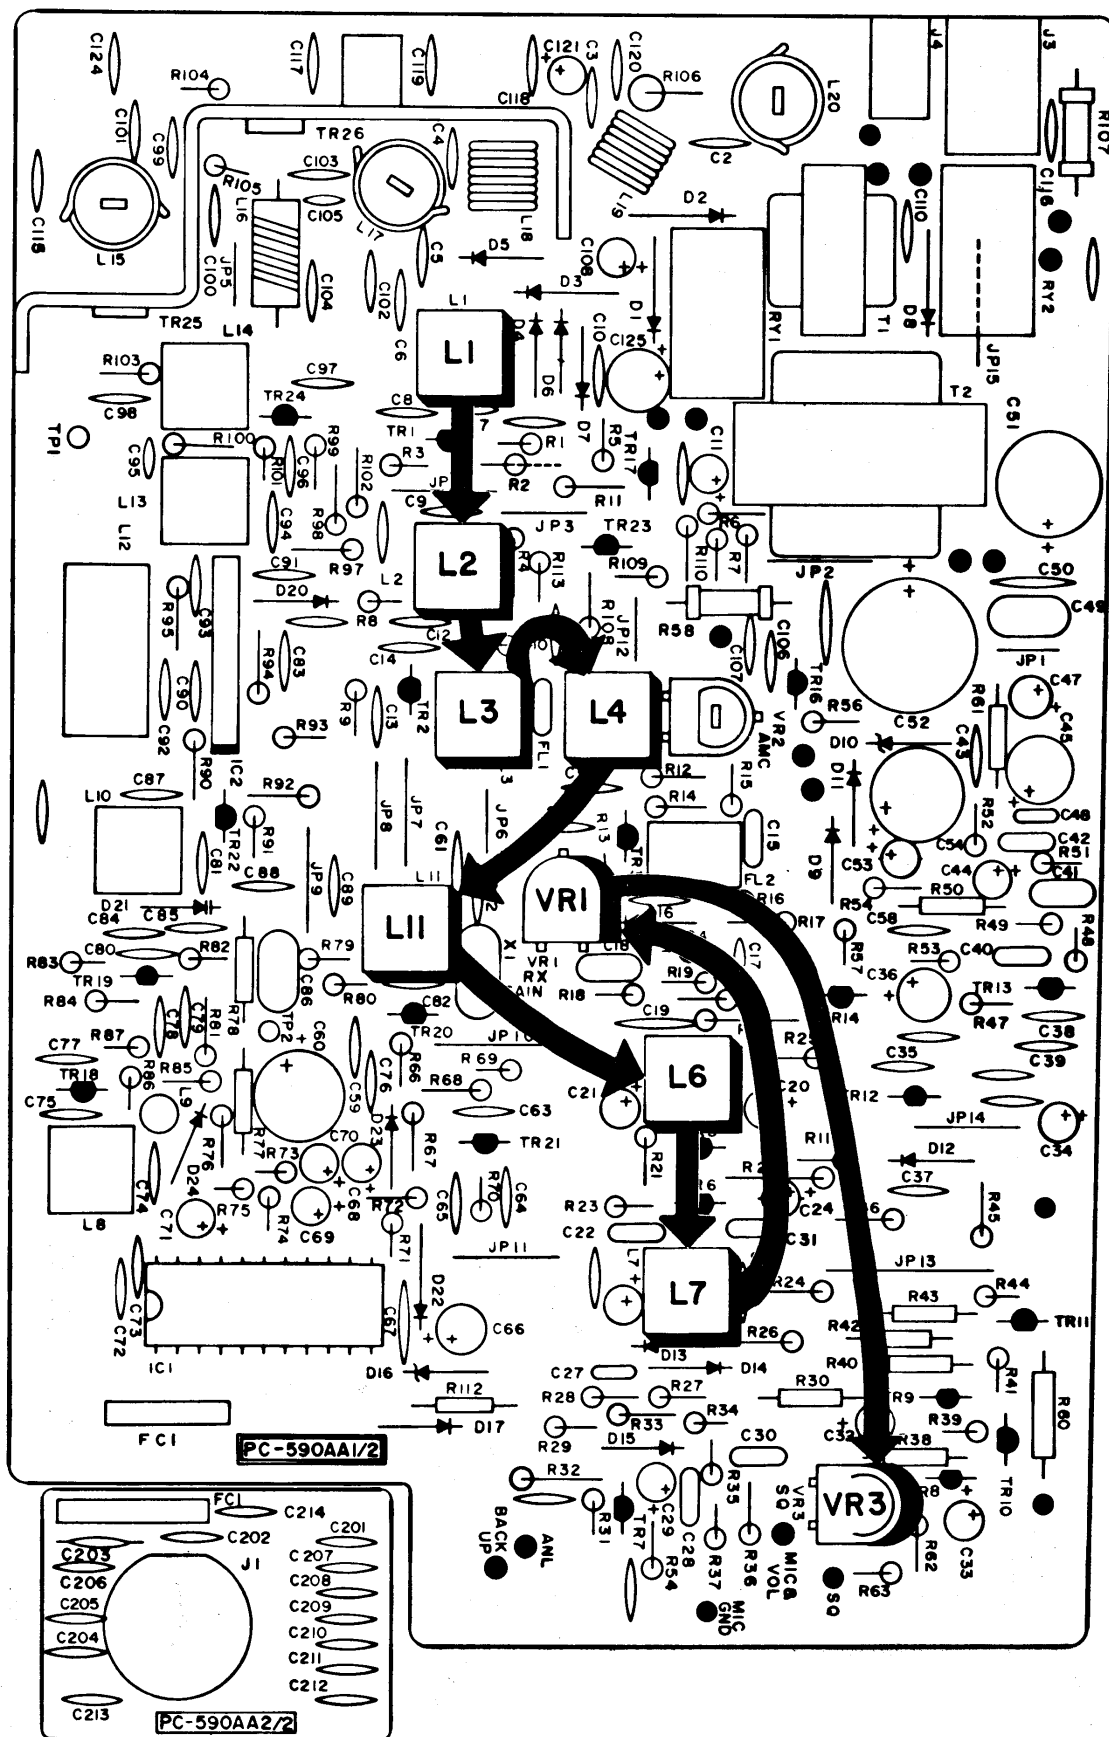

Figure 3 – Receiver Alignment Points
2. Adjust L1, L2, L3, L4, L11, L6 and L7, in this order for maximum reading on the AF V.T.V.M. Refer to Figure 3.
3. Reduce signal output from generator for 0.7 μ V input to the antenna. Adjust VR1, see Figure 3, for 1.4 volts RMS on the AF VTVM.
4. Turn SQUELCH control clockwise. Introduce a 1 mV signal from the generator into the antenna jack. Adjust VR3, see Figure 3, so that the AF signal just begins to appear on the oscilloscope.